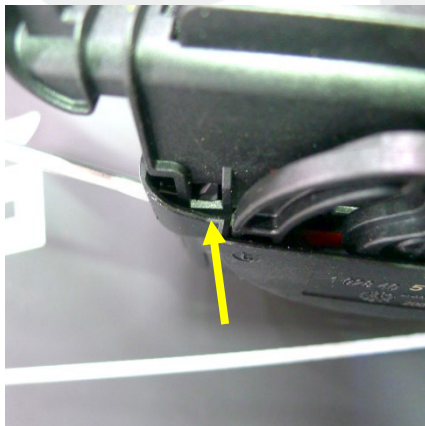
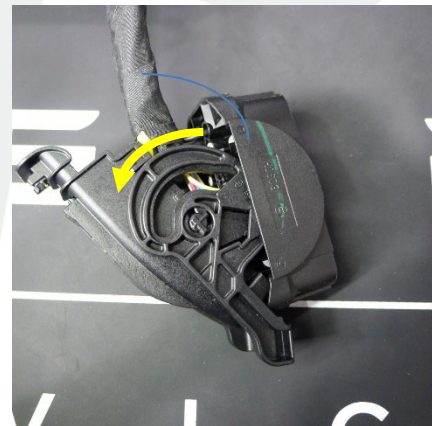

Figure 6
Figure 7
8. Release the tabs (x2) that attach the rear cover to connector X151 (Figure 6), swing the rear cover out (Figure 7), and then remove the rear cover from the connector.